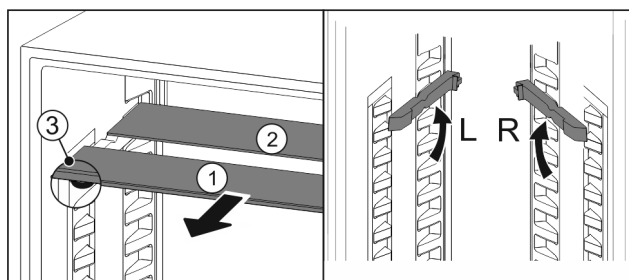

Fig. 21
- ▶ Pull the glass panels out Fig. 21 (1) from the front, one at a time.
- ▷ The glass panel Fig. 21 (1) with the trim strip is at the front.
- ▷ The stops Fig. 21 (3) point downward.